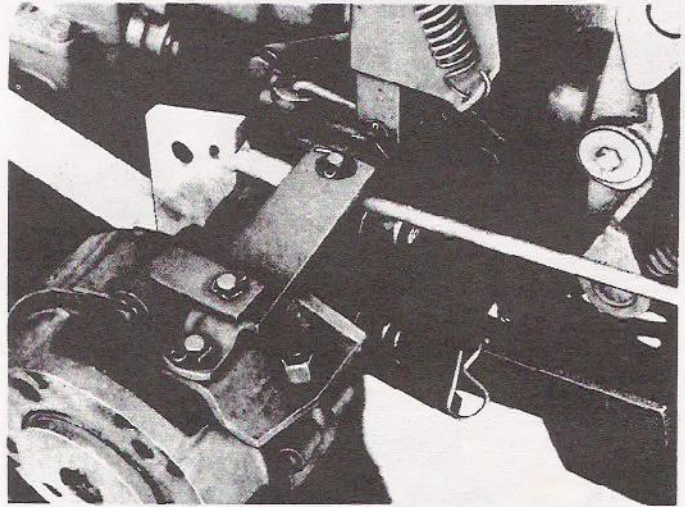

FIGURE 24
1. Assemble the Frame Assembly Axle Connector and the two Axle Ticstraps with four Bolts, Nuts, and Lockwashers to the Rear Axle Housings. The bar of the Frame Assembly Axle Connector goes in front and below the Axle Housings. This Connector does not have to be removed from the Tractor once it is assembled. The Frame Assembly Axle Connector can also be mounted using the 14712E1 Rear Hitch. (See Figure 24).